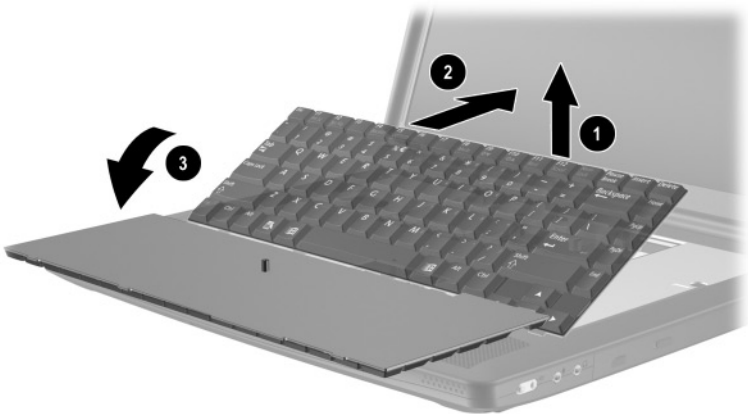

Figure 5-13. Releasing the Keyboard
6. Lift the back edge of the keyboard ❶ until it rests at a 45-degree angle (Figure 5-13).
7. Slide the keyboard toward the back of the notebook ❷ until the tabs on the front edge of the keyboard are removed from the slots in the base enclosure.
8. Swing the back edge of the keyboard up and forward ❸ and rest the keyboard on the palm rest.